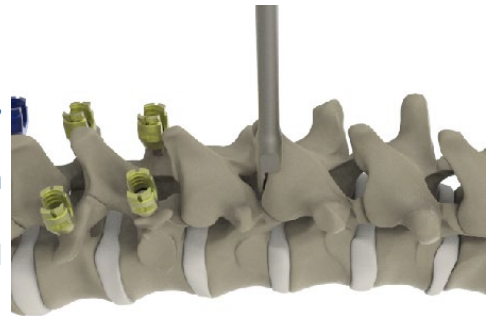

Fig. 6
- Prepare vertebral anatomy for hook placement. Lamina, transverse, and pedicle hook starters are provided (Fig. 6).